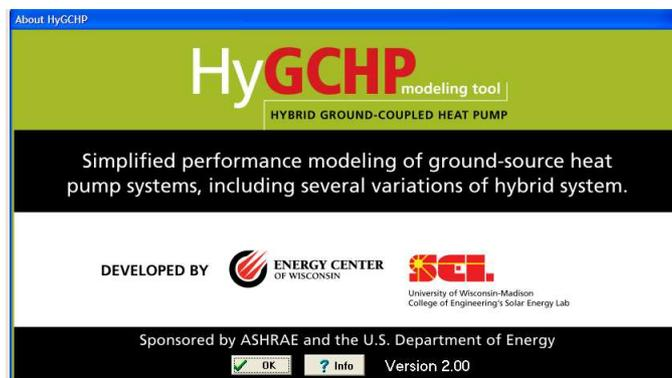
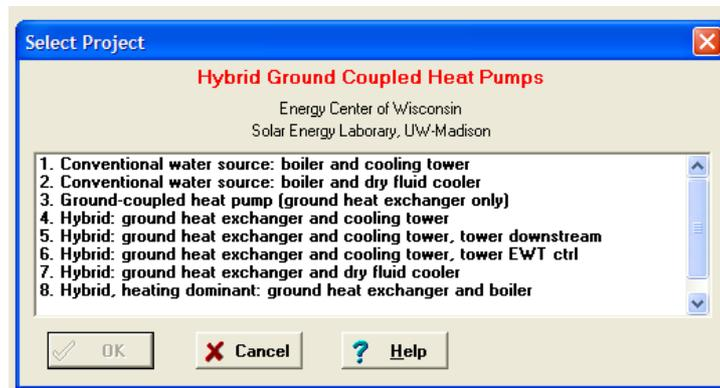

Figure 8. HyGCHP Splash Screen
Figure 9. Select the system to be considered
- 2.) The splash screen for the HyGCHP program should appear (Figure 8); select **OK** to run the program (Figure 9), or click Info to launch the online help).
- 3.) Select the system to be simulated (Figure 9). Six systems can be selected from. For now, select **Hybrid system: ground heat exchanger and cooling tower** and press **OK**.